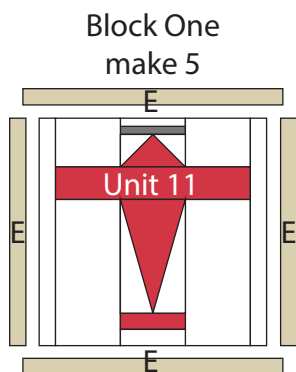

Fig. 18
18. Sew (1) $1\frac{1}{2}$ " x $14\frac{1}{2}$ " Fabric E strip to each side of (1) Unit 11 square. Sew (1) $1\frac{1}{2}$ " x $16\frac{1}{2}$ " Fabric E strip to the top and bottom of the Unit 11 square to make (1) $16\frac{1}{2}$ " x $16\frac{1}{2}$ " Block One square (Fig. 18). Repeat to make (5) Block One squares total.